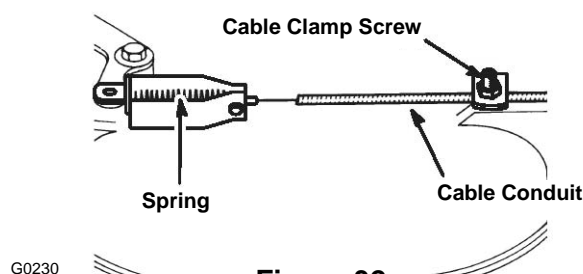

Figure 32
3. Loosen the cable clamp screw until the cable conduit slides (Fig. 32)